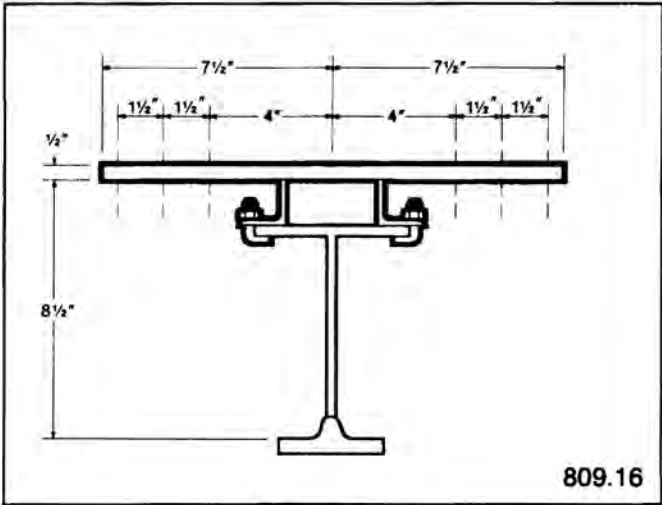

FIGURE 38
- 809.16 (Refer to Figure 38): For up to 8-wire (4-run) dual conductor bottom-entry electrification or 6-wire single conductor bottom-entry electrification at 8½" above operating flange surface of 604.717 *SuperTrack™ Girder*.